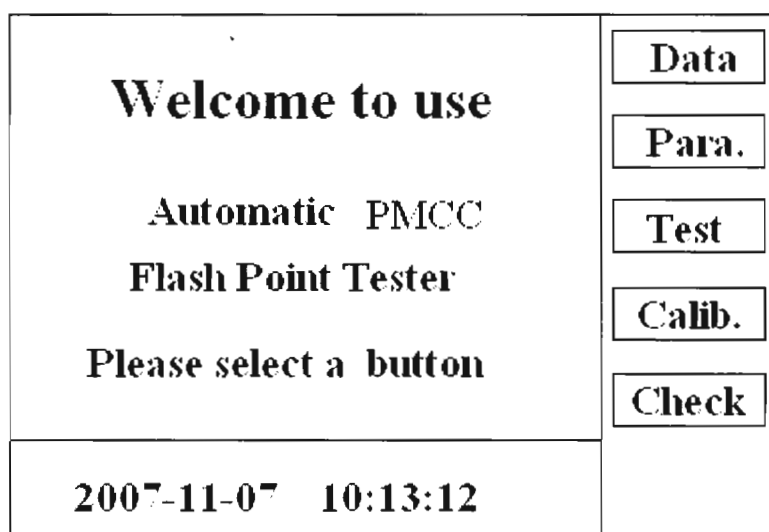

Fig.2
1. Turn on the power supply switch, and the display screen is shown as Fig.2.